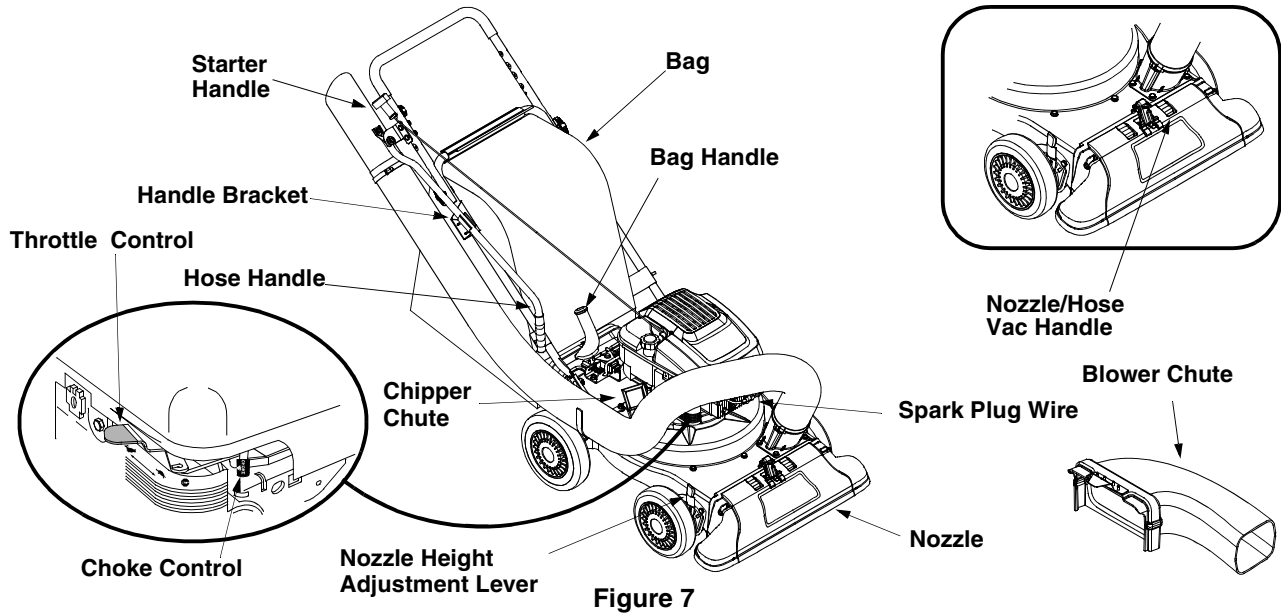

Figure 7
- Connect the hose handle near nozzle end of hose to the side bracket on the upper handle. Refer to Figure 7.
- Snap hose handle to the lower handle bracket to secure in place and lay hose tubing on side bracket hanger next to chipper chute. Refer to Figure 7.
OPERATING CONTROLS (See Figure 7)